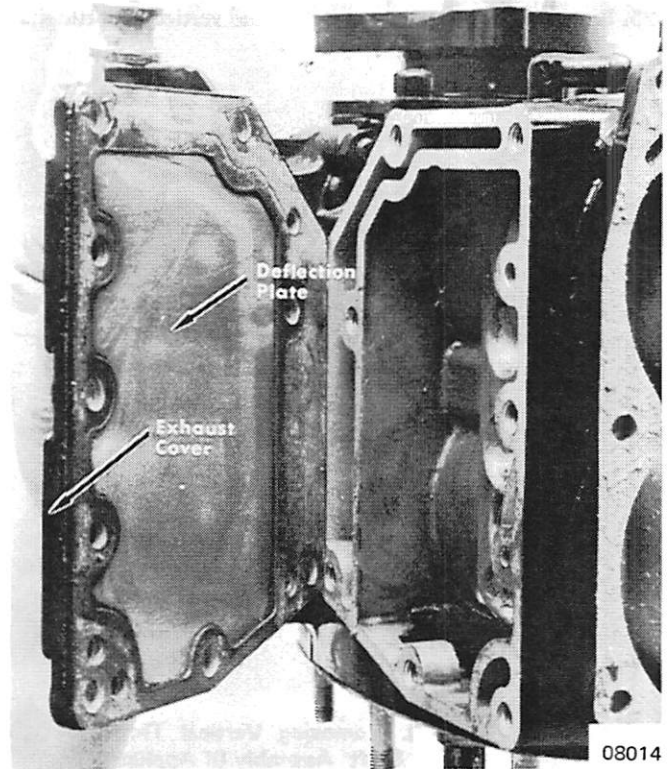

Figure 3. Removing Exhaust Cover and Deflection Plate
3. Remove exhaust cover screw and lift exhaust cover and deflection plate. (Figure 3)